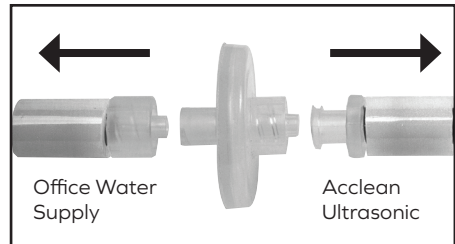

Fig. 6
6. Install replacement filter onto water supply tube as shown in Figure 6.